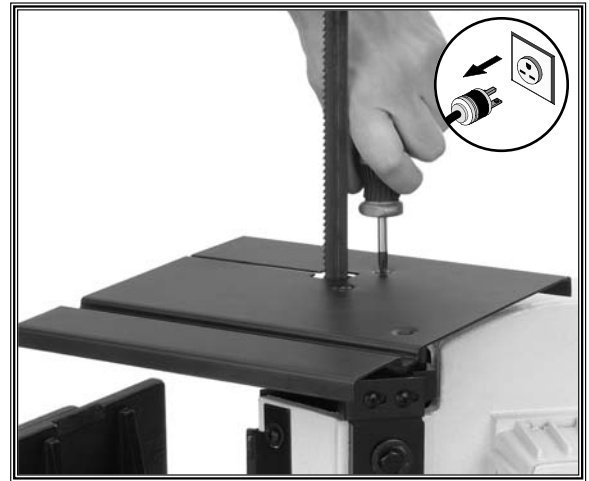

Figure 22. Installing the table.
4. Position and install the vertical cutting table with the two stop plate mounting screws as shown in **Figure 22**).